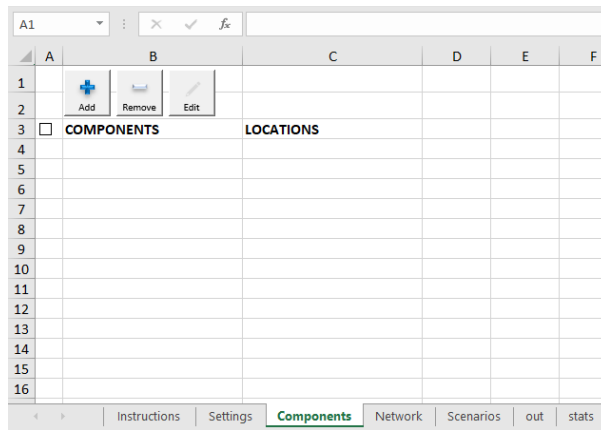

Figure 15: Add Components
3. Next we'll begin filling in the Components as shown in Figure 15, 16, 17, 18, 19, 20, 21, 22, 23.